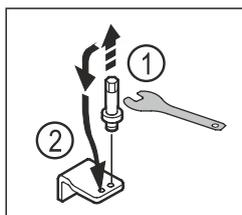

Fig. 14
- ▶ Unscrew the bolt of the lower swap bearing block using an SW5 external hexagon wrench. Fig. 14 (1)
- ▶ Insert the bolt on the opposite side. Fig. 14 (2)